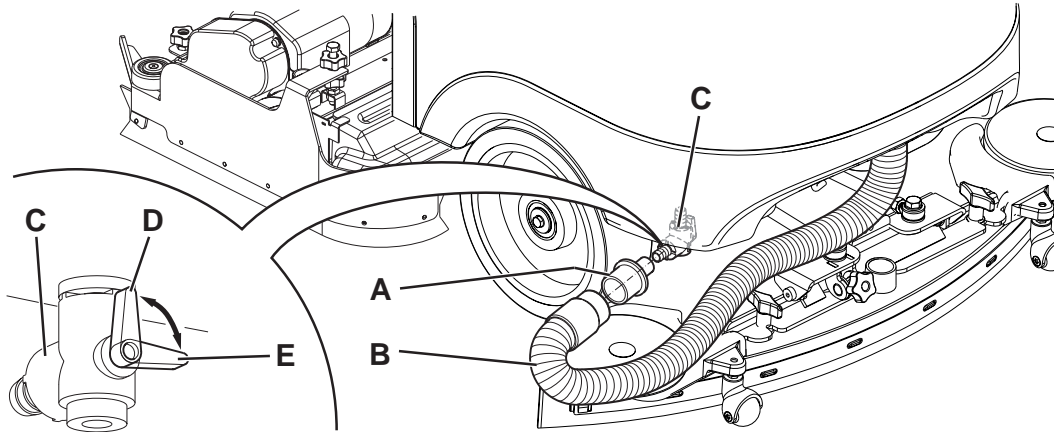

Figure 6
8. Remove the adapter (45) from its housing inside the battery compartment.
9. Install the adapter (A, Fig. 6) on the squeegee vacuum hose (B), then fasten it to the drain tap (C).
10. Turn the ignition key (58) to "I" and turn on the vacuum system with the switch (65).
11. Open the drain tap (C) to drain the tank (22).